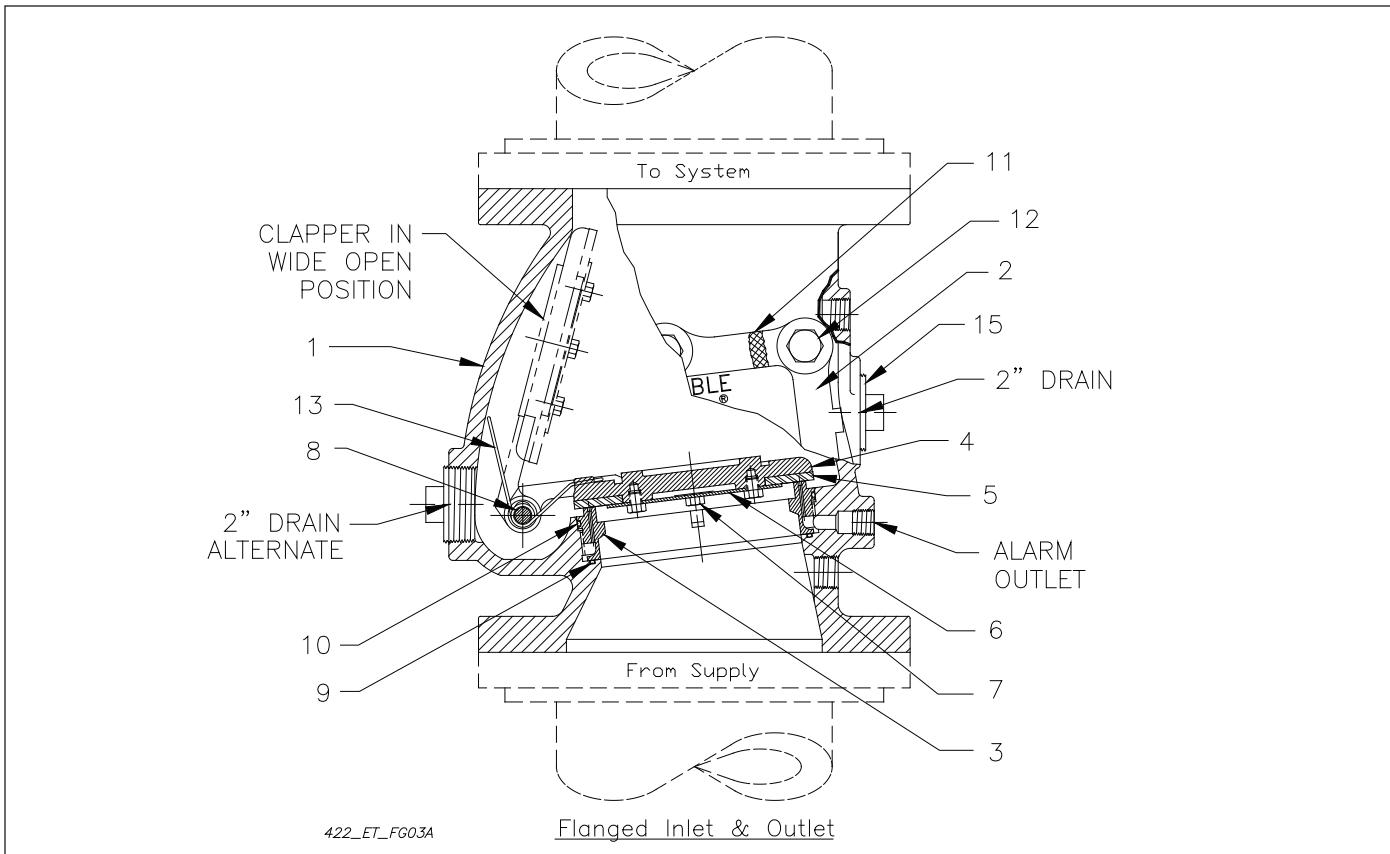

Fig. 3
The normal positions of the Model E Alarm Valve parts are shown in (Refer to Fig. 3).
Alarm Valve (Refer to Fig.3)
2. Remove "O" rings, items 9 and 10, (Refer to Fig. 3) Thoroughly clean the "O" ring grooves and sealing surfaces. Inspect for damage and/or foreign material.